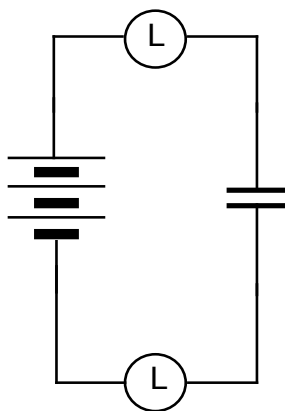

Figure 4.1b
2. Figure 4.1b shows the capacitor after it has been charged. Draw (+) signs by the plate that has gained charge, and (–) signs by the plate that has lost charge.